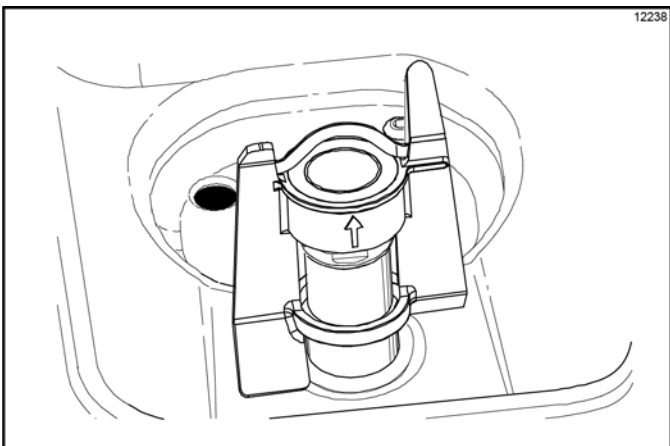

Figure 6-52
15. Place the agitator on the agitator driveshaft housing. (See Figure 6-52.)